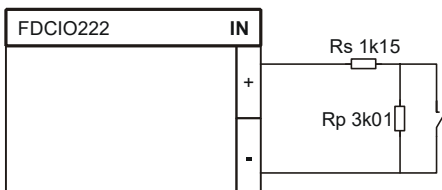
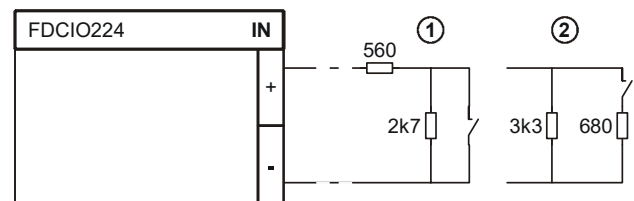

Fig. 6
Fig. 7
3. Connect resistors to input terminals (Fig. 6 and Fig. 7).